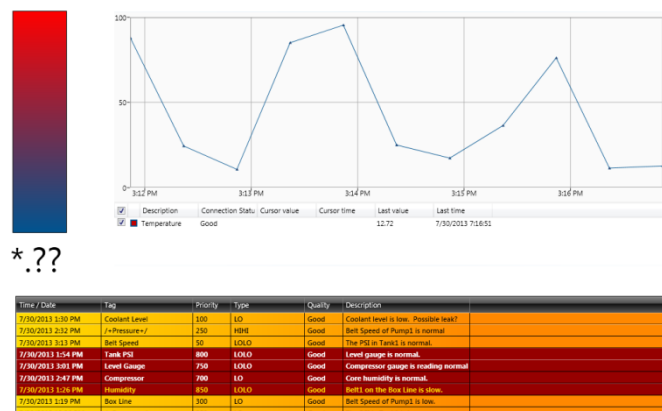

Figure 16 - Display with TrendWorX64 and AlarmWorX64 Viewers
- Your display should now look similar to Figure 16.